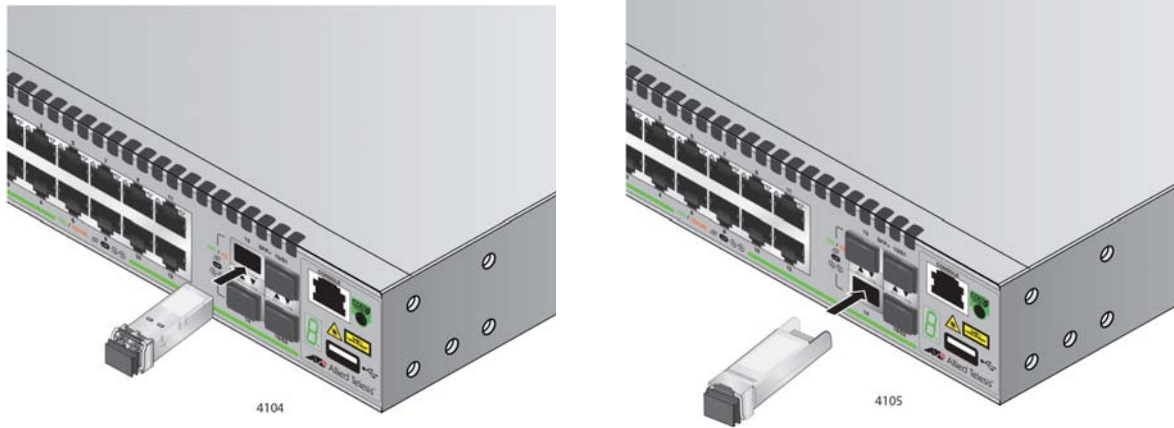

Figure 40. Installing an SFP/SFP+ Transceiver
4. Slide the transceiver into the slot until it clicks into place. See Figure 40.